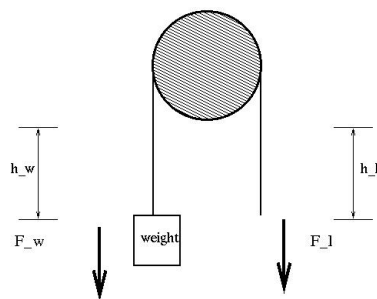

Figure 4.1: Diagram of an  $n = 1$  pulley system.
As an introduction, consider the simplest pulley system, in particular the  $n = 1$  system where  $n$  describes the number of pulleys being used (see Fig. 4.1). If on one end of string we place some mass  $M$  (the *load* to be lifted), then we can pull on the end of the pulley (after draping it over the single pulley) to lift the load. The load will have weight  $F_w = mg$ . We can measure the lifting force  $F_l$  using a spring scale. If the pulley is ideal (no friction or resistance to turning) and the string doesn't slip, then you should be able to reason that  $F_l = F_w$ .
1. Set up the  $n = 1$  system (as in Fig. 4.1) with some weight whose mass you measure. Record the uncertainty in the mass.